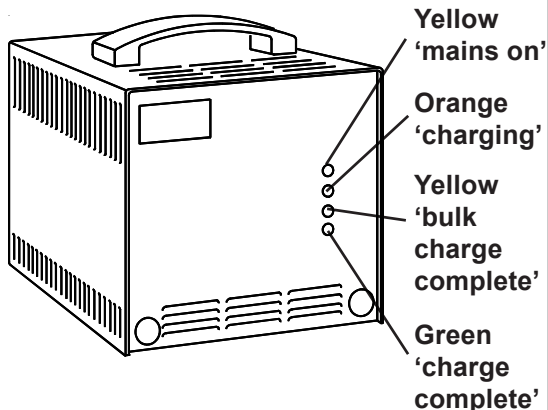

Fig. 55
- 2 Connect the charger to the mains supply by means of the mains plug and switch on. The yellow 'mains on' indicator should light up immediately (Fig. 55), followed shortly afterwards by the orange 'charging' indicator.